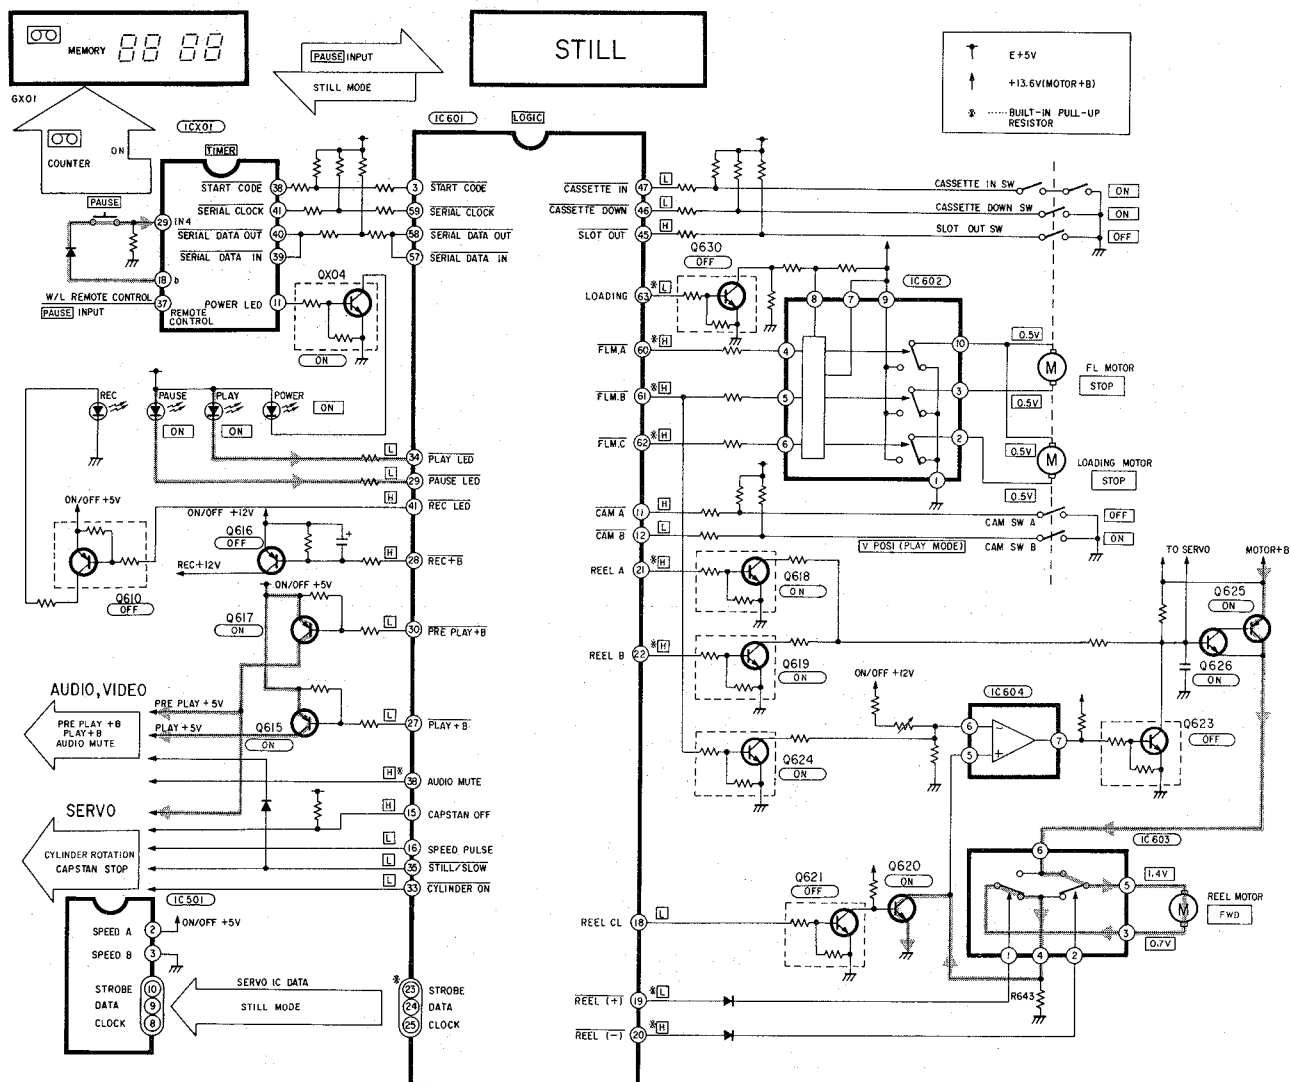

Fig. 3-4-7
- (1) When the PAUSE button is pushed during the playback mode, IC601 is set to the still mode.
- (2) The cam gear is in the playback mode (position V) and the cylinder motor is rotating. Under this condition each pin of IC601 develops output voltages as shown in Fig. 3-4-7.
- (3) Pin (38) of IC601 develops "H" level and mutes audio signals.
- (4) A mode data (still) is sent to IC501.
- (5) The capstan motor is stopped.
- (6) The reel motor is driven at a constant voltage and the idler transfers rotational force to the T-reel table, thus winding the tape. Under this condition a voltage of approx. 0.7V is applied to the motor terminals to prevent tape slack.